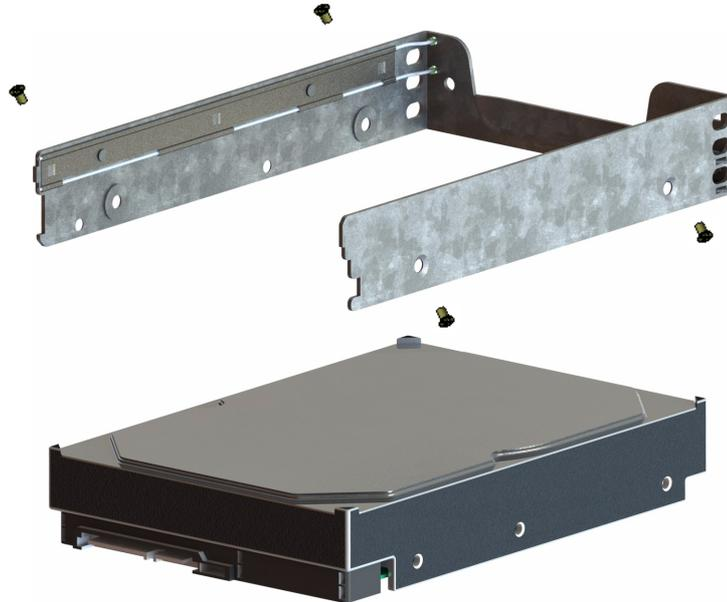

Figure 1-64 Hard Drive and Carrier
4. Secure the hard drive using the four screws (see Figure 1-64).